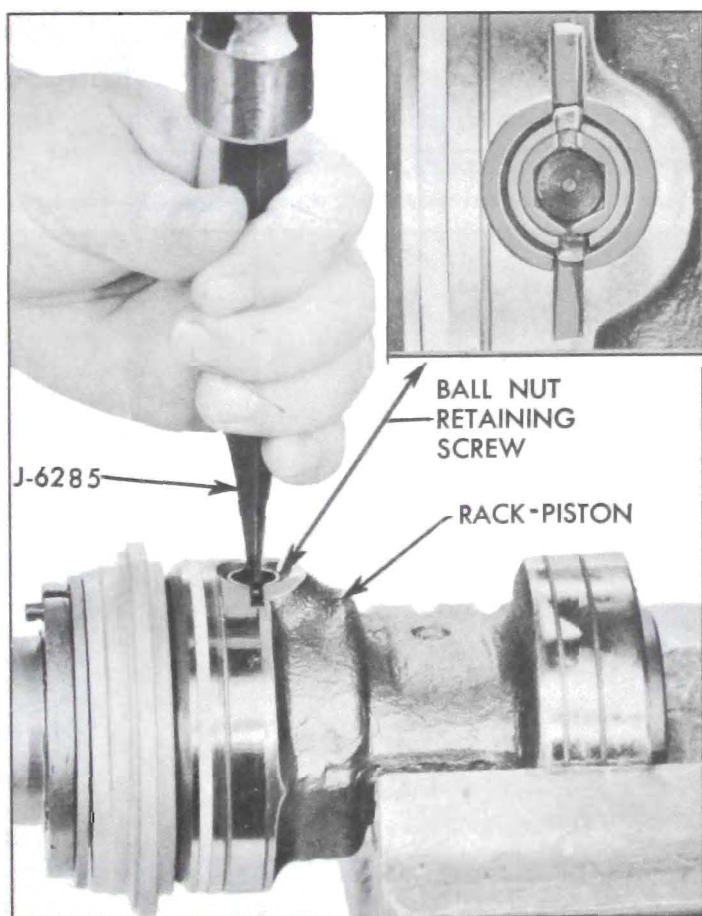

Figure 8-35—Staking Ball Nut Retaining Screw
9. Install the ball nut retaining screw using Allen wrench and tighten to 30 to 35 ft. lbs. Stake screw securely using Staking Tool J 6285. See Figure 8-35.